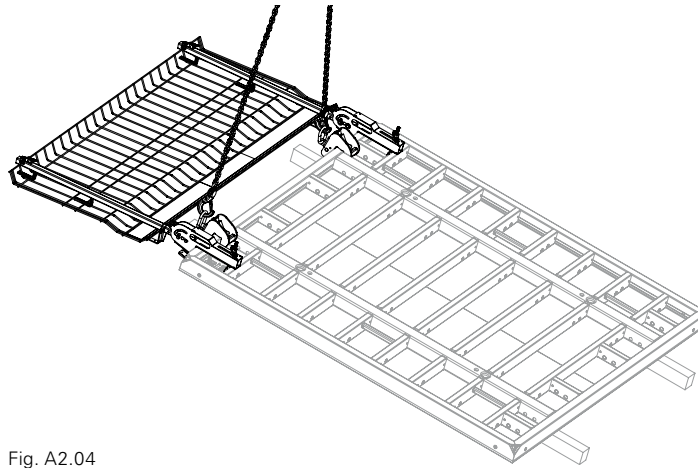

Fig. A2.04
1. Mount opposing guardrails on the horizontally-positioned panel, see Section A7. (Fig. A2.04)
2. Mount Lifting Hook MAXIMO 1.5 t. (Fig. A2.04)